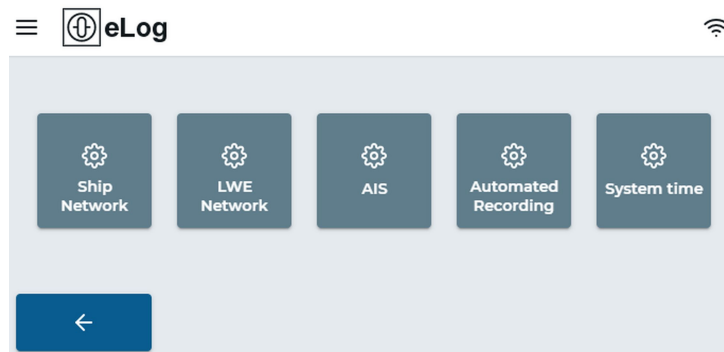

Fig. 10: Gateway Configuration
- Select the softkey **Ship Network** in the Gateway Configuration menu, see Fig. 10.
1. Select the softkey **LWE Network** in the Gateway Configuration menu, see Fig. 10.
1. Select the softkey **AIS** in the Gateway Configuration menu, see Fig. 10.